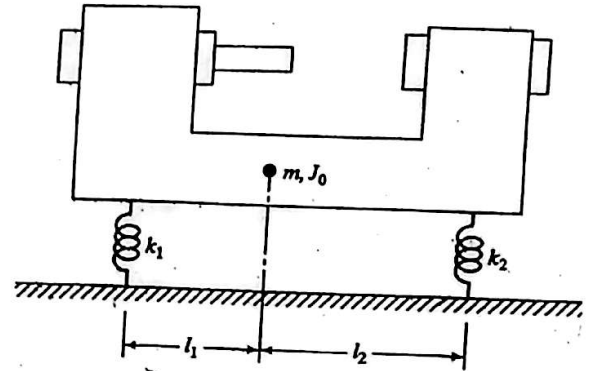

FIGURE 5.19
- 5.4 A machine tool, having a mass of  $m = 1000$  kg and a mass moment of inertia of  $J_0 = 300$  kg-m2, is supported on elastic supports, as shown in Fig. 5.19. If the stiffnesses of the supports are given by  $k_1 = 3000$  N/mm, and  $k_2 = 2000$  N/mm, and the supports are located at  $l_1 = 0.5$  m and  $l_2 = 0.8$  m, find the natural frequencies and mode shapes of the machine tool.